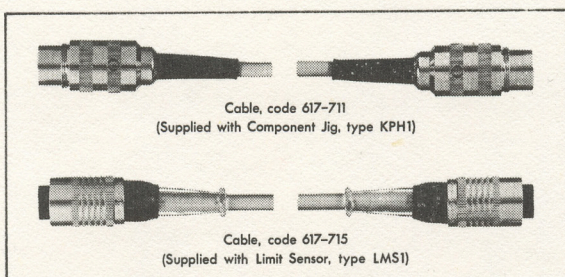
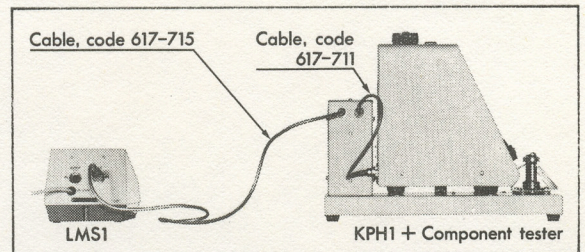

Fig.E1. Cables required for connection of a Limit Sensor, type LMS1, to a Component Jig, type KPH1, and to a component tester.
Fig.E2. How to connect the Limit Sensor, type LMS1, to a Component Jig, type KPH1, and to a component tester.
1) Connect the Limit Sensor, type LMS1, to the Component Jig, type KPH1, by means of the Cable, code 617-715, supplied with LMS1 (see Fig.E1). To do so, refer to Fig.E2.
2) Connect the component tester to the Component Jig, type KPH1, by means of the Cable, code 617-711, supplied with KPH1 (see Fig.E1). To do so, refer to Fig.E2.